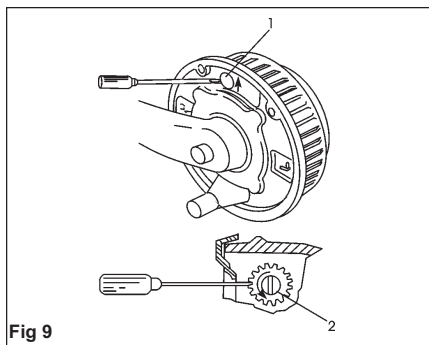

**Fig 8**
- Ensure the towing shaft with coupling heads is pulled fully forward (Fig. 8).
- Release the handbrake to the fully off position. If the handbrake will not go down the whole way because of the fairing or any other obstruction; then the fairing must be cut away and/or the obstruction removed to achieve this desired position. It will not be possible to set up the braking system properly when the handbrake is not in the fully off position (Fig. 8).
- Remove the inner plastic bung from the backplate to expose the 'starwheel' adjuster access (Figs. 8 & 9).
pulled out it should extend between 5 and 8 mm (Fig. 8). (On tandem axles a double abutment is fitted to the front axle only).
- Ensure the balance bar (compensation) is being pulled evenly. This bar (double on tandem axles) should always be paralleled with the axle tube when pulled (Figs. 8 & 10). Adjust M8 lock and ball nuts, if necessary, to achieve correct parallel position (Fig. 10).
- Over adjustment to the long ball nut (Fig 10), could induce movement of the inner brake cable, reducing the effective clearance of the brake shoes. If the overrun lever will not make contact, it is possible the two lock nuts, forward of the spring cylinder, are incorrectly adjusted. Loosen the nuts and adjust the brake rod as above (Figs 8 & 10).